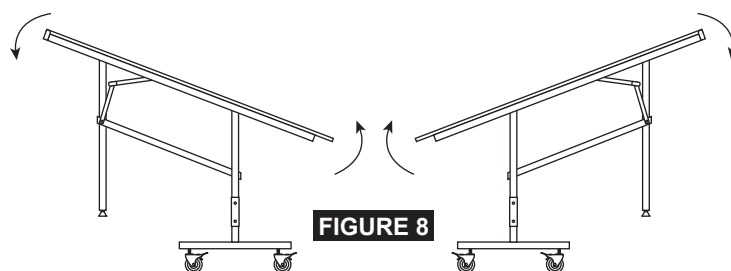

FIGURE 8
2. Fold each halves table as shown **FIGURE 8**.